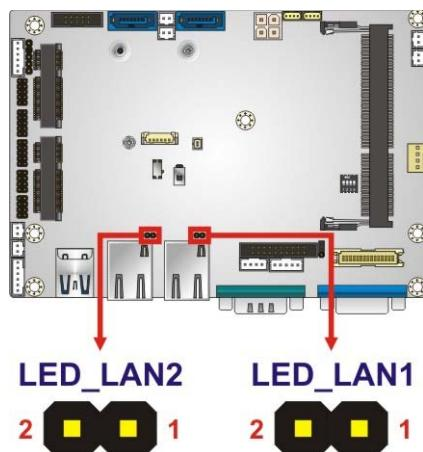

Figure 3-13: LAN LED Connector Locations
**Table 3-12: Keyboard and Mouse Connector Pinouts****3.2.12 LAN LED Connectors****CN Label:** LED\_LAN1, LED\_LAN2**CN Type:** 2-pin header**CN Location:** See **Figure 3-13****CN Pinouts:** See **Table 3-13**